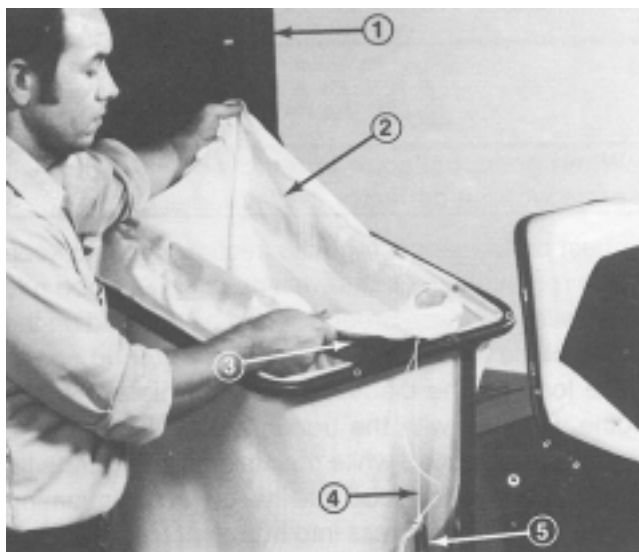

Figure 6
6. Open hood and position bag around inner frame of upper support tube assembly (Fig. 6).
7. Pull bag drawstring cord tightly around frame to hold bag and secure with metal slip (Fig. 6).